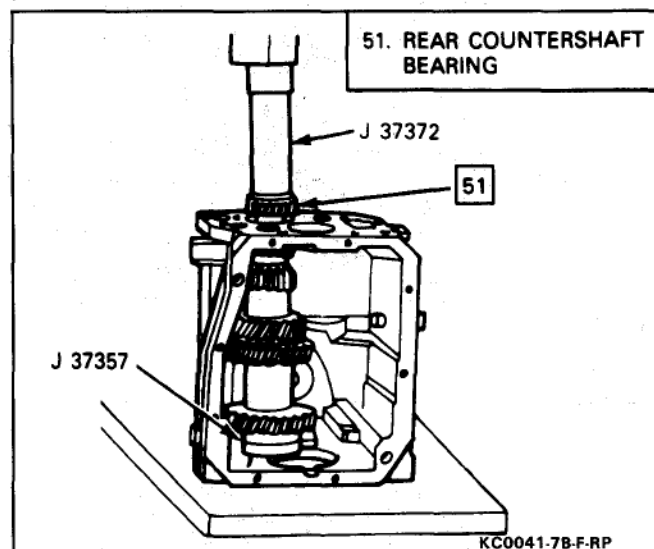

Figure 37 Installing Rear Countershaft Bearing
3. Rear countershaft bearing to countershaft using J 37372 and a press (Figure 37).